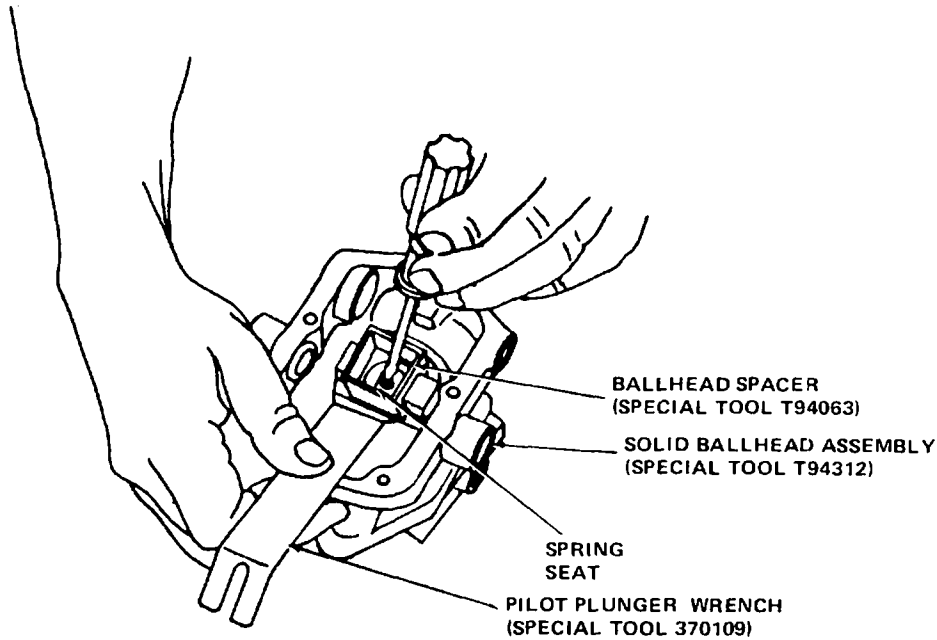

Figure 11-23. Centering the Governor Pilot Valve Plunger
(21) Center pilot valve plunger (58) using tools shown in figure 11-23 and proceed as follows: